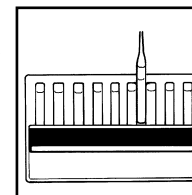

Figure 5
9. Hold the comparator in a nearly horizontal position while standing directly beneath a bright source of light. Place the VACUette ampoule between the color standards moving it from left to right along the comparator until the best color match is found (fig 5). If the color of the VACUette ampoule is between two color standards, a concentration estimate can be made.